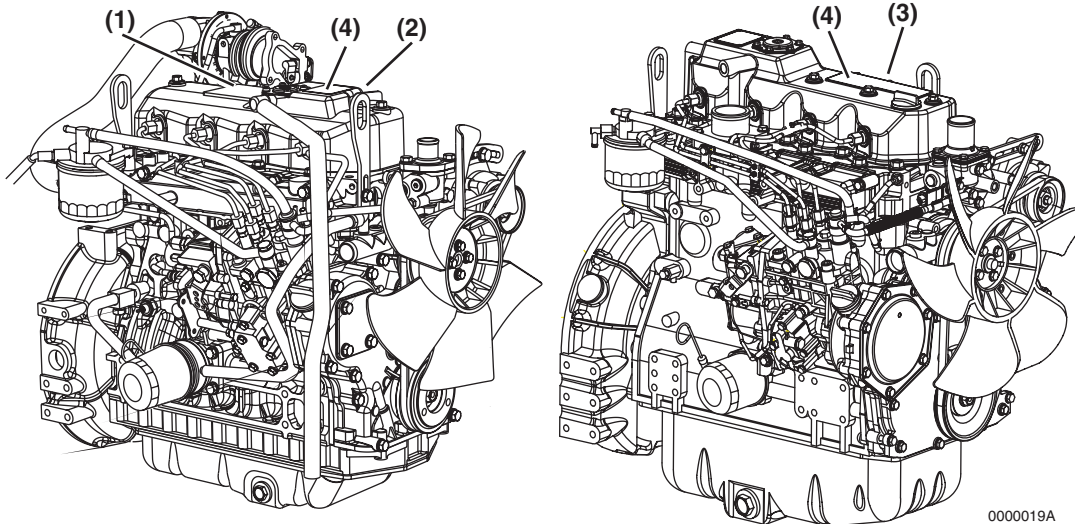

Figure 4
Figure 4 shows the location of regulatory and safety labels on Yanmar TNV series direct injection model engines.
The typical location of the emission control information label is shown for 4TNV84, 4TNV84T and 4TNV88 engines (**Figure 4, (1)**).
The typical location of the emission control information label is affixed to the exhaust side of the rocker arm cover for 3TNV82A, 3TNV84, 3TNV84T and 3TNV88 engines (**Figure 4, (2)**).
The typical location of the emission control information label is affixed to the exhaust side of the rocker arm cover for 4TNV94L, 4TNV98, 4TNV98T, 4TNV106 and 4TNV106T engines (**Figure 4, (3)**).
Typical location of the engine nameplate is shown for various Yanmar TNV engines (**Figure 4, (4)**).